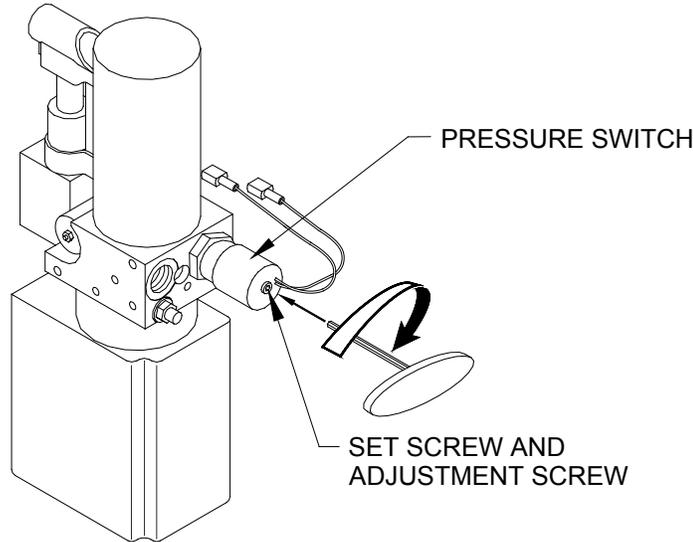

FIGURE 2-16: HYDRAULIC PUMP WITH PRESSURE SWITCH
- c. Refer to **Figure 2-16**. Remove the 1/4-20 x 1.00" setscrew (with hex recess) from end of pressure switch to gain access to adjustment screw. Save setscrew for reinstallation.